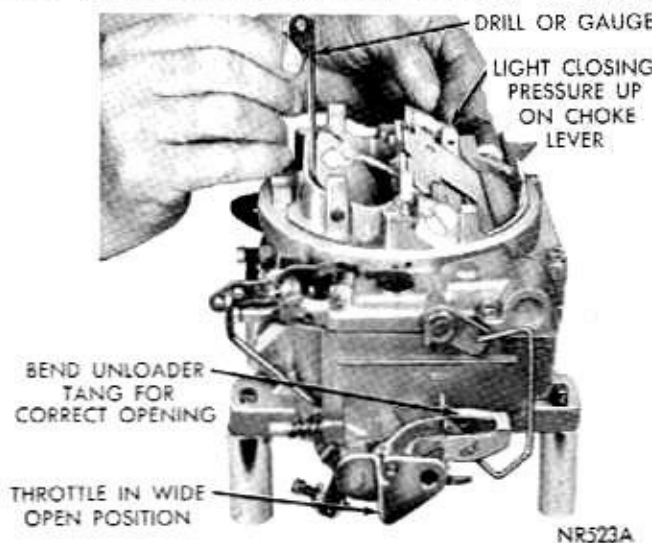

Fig. 14—Checking Choke Unloader (Wide Open Kick)
(1) Hold throttle valves in wide open position. Insert specified drill (refer to Specifications), between upper edge of choke valve and inner wall of air horn. (Fig. 14).
(2) With a finger lightly pressing against choke lever, a slight drag should be felt as drill is being withdrawn. If an adjustment is necessary, bend unloader tang on fast idle cam, using Tool T-109-22, until correct opening has been obtained. (Fig. 14).